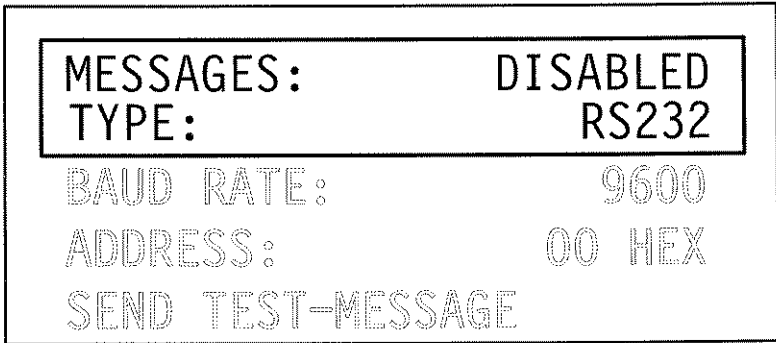

Figure 2-10: Programming the Communications Interface
1. Use the down key to advance to PROGRAM COMM-PORT. Press the enter key. The display will look like Figure 2-10.